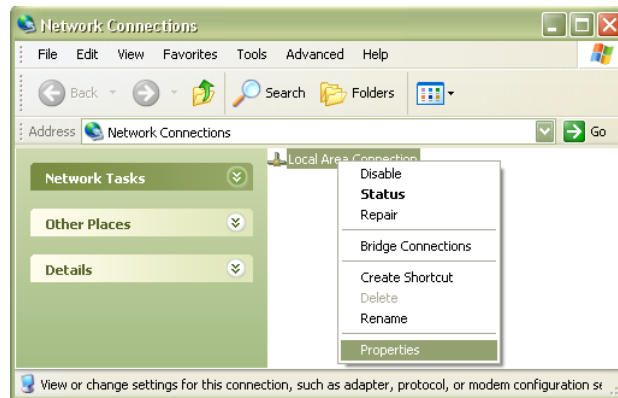

FIGURE 2-14: NETWORK CONNECTION PROPERTIES
- 3) Right click on the connection that will be used to communicate with the EX1200A, then select **Properties** (see Figure 2-14). Some PCs have multiple network connections, so it is important to make certain that the connection used to communicate with the EX1200A is selected.